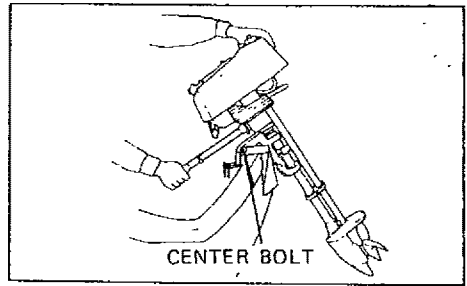

Figure 14
- a. Always tilt motor by lifting on rear of shroud. **DO NOT PUSH DOWN ON THE STEERING HANDLE.** When removing the motor from the boat, raise the outboard in upward direction until the propeller clears the transom. Hold the motor upright long enough to allow all water to drain from the exhaust pipe. When you find it difficult to hold the motor upright, tighten the Center Bolt increasingly for desired effort. (See Figure 14).